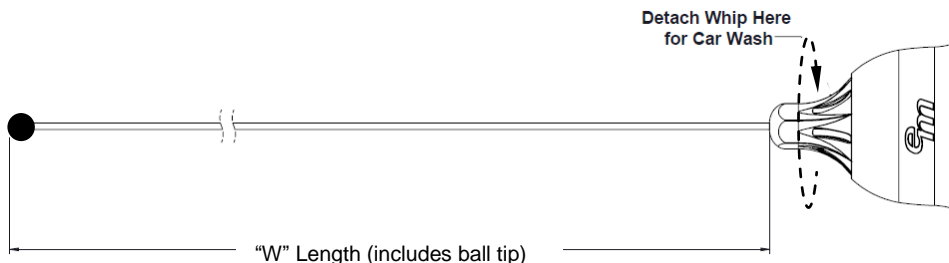

Figure 1
5. Measure the cut length "W" as shown in Figure 1. The length includes ball tip.
Automatic Car Wash Feature - For optimal protection and extended reliability of the antenna and the NMO vehicle mount, **remove the whip only** from the antenna base (as shown in Figure 1) before entering automatic car wash. Before re-installing the whip, wipe the stud and base dry with a clean cloth. Attach whip to the antenna adapter with firm hand torque.